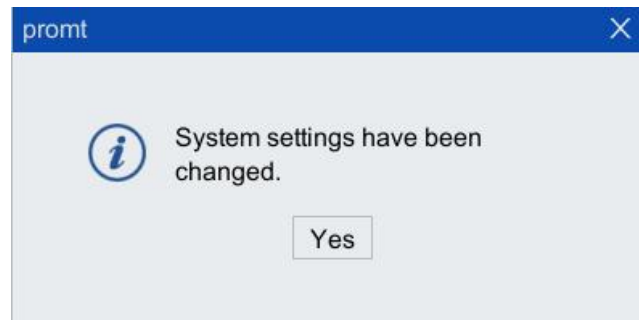

Figure 8-30 "System settings have been changed" dialog box
- Step2. After the setting is completed, click the <Apply> button, and the "System settings have been changed" prompt box as shown in Figure 8-30 will pop up to complete the setting; if you click the <Refresh> button, it will return to the initial setting.